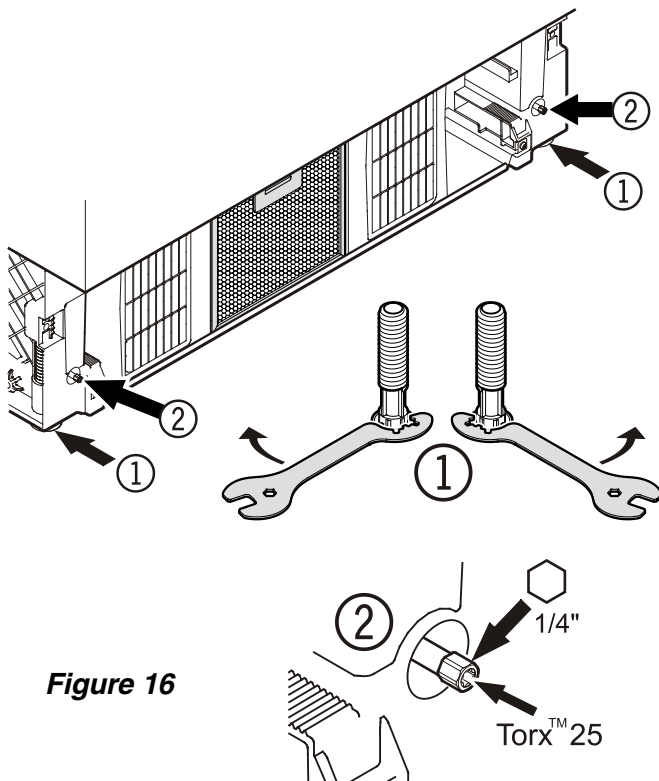

Figure 16
Leveling the Appliance - Figure 16
1. Adjust the height of the appliance at the front by twisting the leveling feet ①. Use the open-ended spanner provided. Turn the spanner counterclockwise to raise the appliance front and clockwise to lower it. Position the spanner accordingly (**Figure 16 - ①**).
2. Adjust the height of the appliance at the rear by turning the adjusting bolts ②. Use a 1/4" box spanner or the Torx 25 wrench provided.
3. Rotate leveling feet ③ until firmly in place against the floor.
To prevent the appliance from tipping forward the leveling feet ① (**Figure 16**) must have contact with the floor.